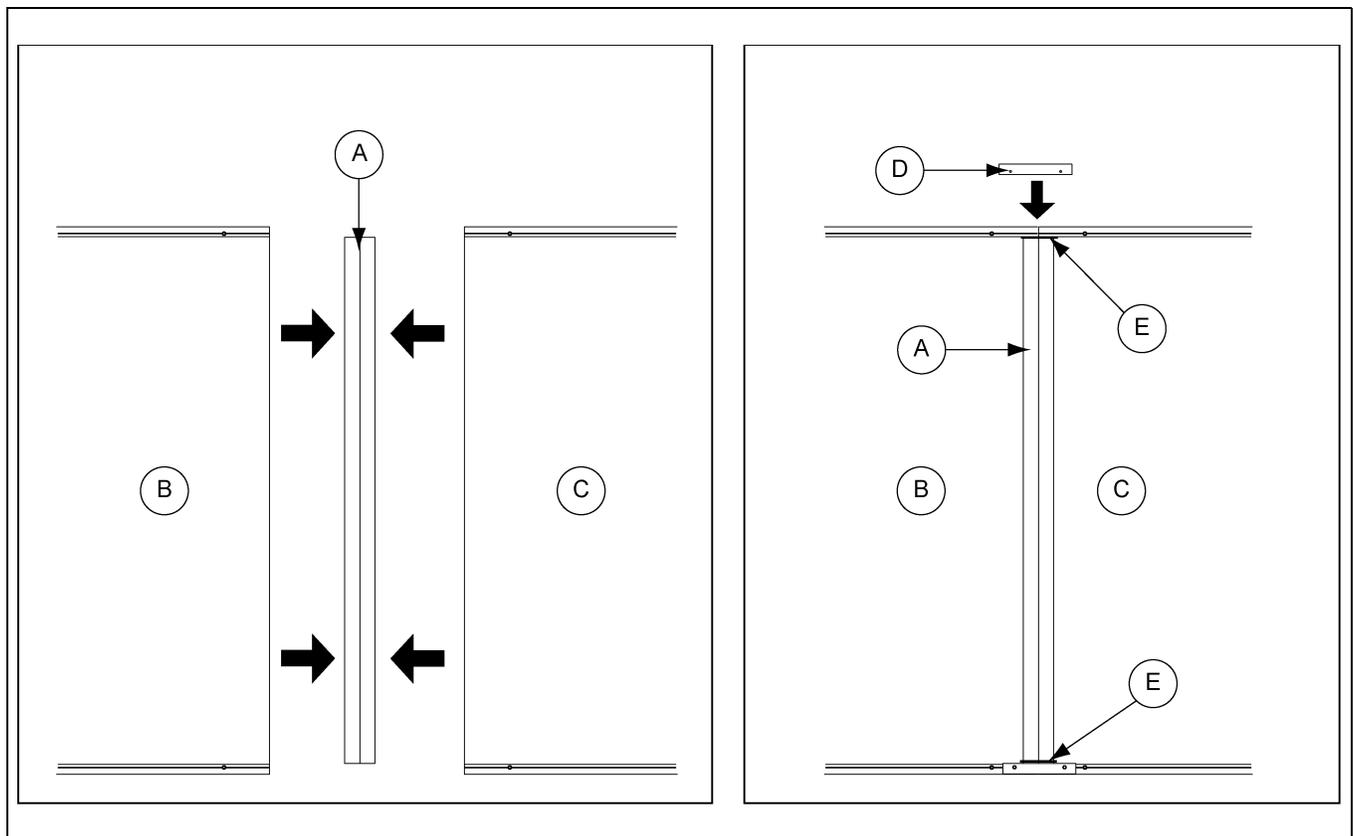

Figure 3N
4. Attach the splice channels (30-0981) (D) to the top and bottom of the panels (B and C), over the channel.
5. Fasten the splice channels (30-0981) (D) to the panels using two (2) self-drilling screws (S-280).
6. Caulk (E) along the seam of the splice channels.
7. Repeat connecting panels until you reach the end of the framed opening. (See Figure 3N.)